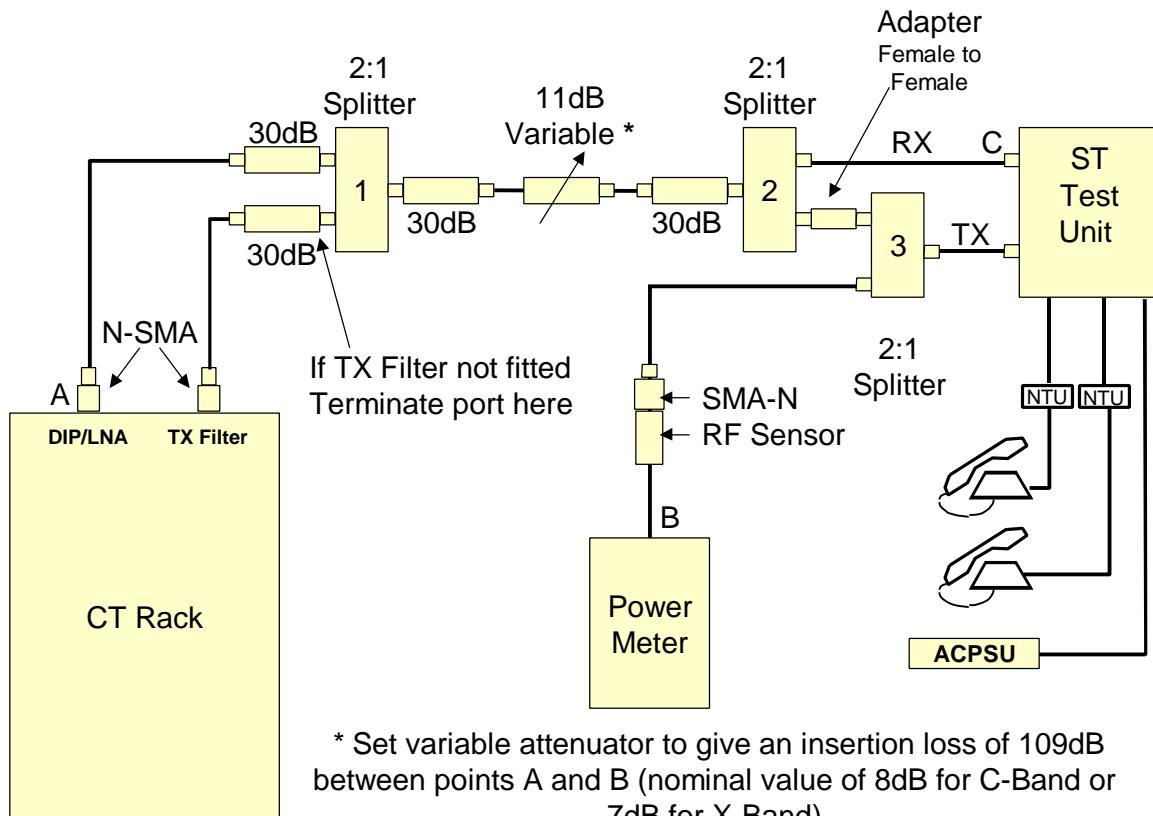

Figure 7-3. Test Set-Up Modem Shelves (2.0-2.3GHz and 2.3-2.5GHz Band)
- c) If measuring the power output on shelf 3 and/or 4 connect the Power Meter to the power meter to the N-Type connector on the TX filter card as shown in Figure 7-3.
- Connect the cables and accessories to the CT rack for Modem Shelf setting up and functionality testing as detailed in Figure 7-3. Set the 0-11dB variable attenuator to a nominal value (8dB for 2.0 - 2.3GHz band systems or 7db for 2.3 - 2.5GHz band systems, the insertion loss of the test circuit should be 109dB between point a and b in Figure 7-3). In practice the setting of the attenuator will be a few dBs less than the nominal level to account for the actual cable, connector and splitter loss. Due to the microwave frequencies involved the commissioning items need to be calibrated for the channel frequencies to be used.
Note: If the TX Filter is not fitted terminate the port of Splitter A as shown in Figure 7-3.
12. Adjust the gain control voltage on Sitespan to achieve a RF Power level of nominally +8dBm for 2.0 - 2.3GHz Band or +7dBm for 2.3 - 2.5GHz BAND-Band on the RF Power meter. The exact reading should be 11dBm for 2.0 - 2.3GHz Band or 10dBm for 2.3 - 2.5GHz BAND Band- the measured loss from point C to point B in Figure 7-3. Record the voltage and power level on the Test Result Sheet.